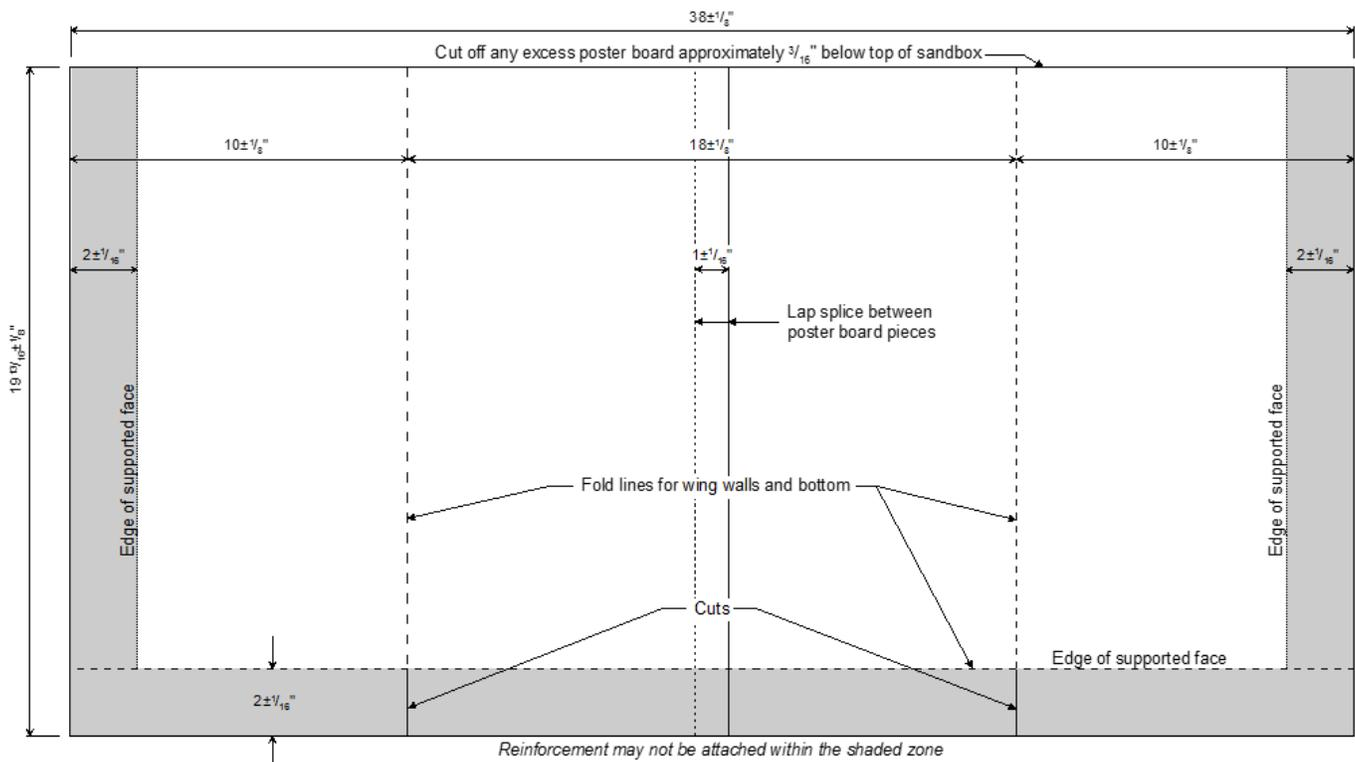

Fig. 5: Dimensions of the posterboard wall facing (not to scale)
- Facing – Two pieces of poster board must be joined with a lap splice. See Fig. 5 for dimensions.
- a. **Reinforcement Fabrication Stage** – Each team will be provided with a single sheet of 60 lb Kraft paper approximately 24" × 24". The team must fabricate their reinforcing elements from this sheet using authorized construction tools. Teams will be timed for this stage with overtime charges when fifteen (15) minutes has been exceeded. After the reinforcing elements are fabricated, excess material will be disposed of and the judges will weigh the reinforcing elements to the nearest 0.01 grams.
- b. **Wall Assembly Stage** – After each team's reinforcing elements have been fabricated and weighed, the team will be provided with two sheets of poster-board (22 inches × 28 inches) and a roll of packaging tape. The team must assemble their wall using these materials and authorized construction tools. Dimensions for the wall facing are shown in Fig. 5.
- iv. The wall should be trial-fitted to the sandbox during this stage. Any portion of the wall that rises above an imaginary line that is 3/16 inch below the top of the sandbox must be trimmed off. The assembly stage is complete when the facing material is properly folded and trimmed, the reinforcing elements are attached to the facing, the wall is placed in the sandbox, and the PVC pile sleeves are installed and stabilized. No sand is added to the box in this stage. Twenty (20) minutes will be allotted for this stage. Teams will be penalized for time exceeding the time limit. Judges will check to ensure the wall is properly assembled.
- iv. Improper placement of reinforcement strips resulting from sloppiness of construction (they should avoid the gray areas as presented in Fig. 5);
- iii. Improper placement of reinforcement strips by design (they should avoid the gray areas as presented in Fig. 5);